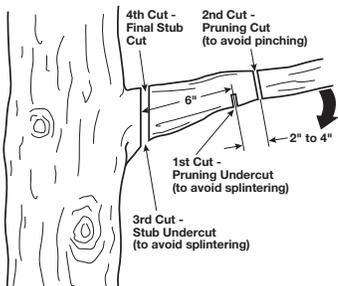

Fig. 15 Cutting Sequence for Pruning a Tree Limb
1. Use the top of the guide bar to make the first cut on the underside of the limb. This cut should be about 6" from the tree trunk and about 1/3 of the thickness of the limb (Fig. 15).
2. Move 2" to 4" farther out on the limb and use the bottom of the guide bar to make the second cut on the top side of the limb. Continue cutting until the limb is completely off the tree (Fig. 15).
3. Use the top of the guide bar to make the third cut on the underside of the limb stump. This should be made as close as possible to the tree trunk and about 1/3 of the thickness of the limb stump (Fig. 15).
4. Use the bottom of the guide bar to make the fourth and final cut. Make this cut directly above the last and downwards through the limb stump (Fig. 15).